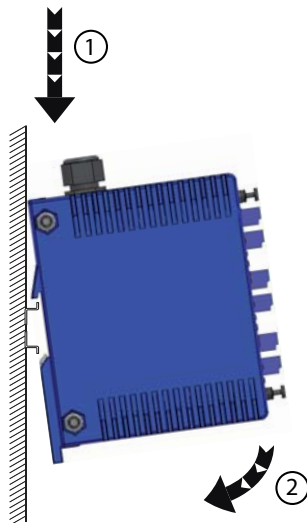

Figure 14: Mounting the device on the DIN rail
- ☐ Insert the slider into the rail and press the device down against the rail until it locks into place (see figure 14).